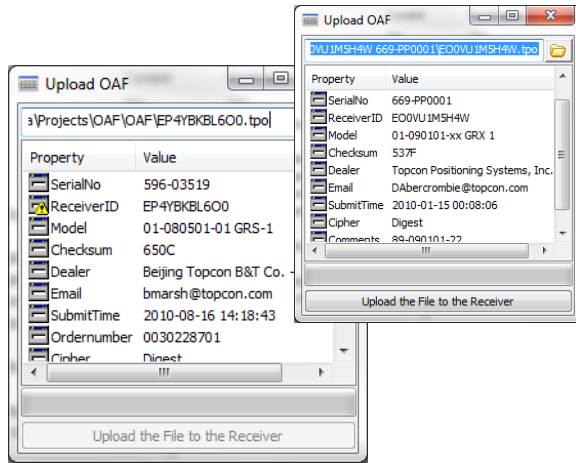

Figure 5-7. Compatibility Check of OAF
4. Sokkia SRU initially checks to see if the selected file is compatible with the currently connected receiver. If a file not intended for this receiver was selected, the *Upload OAF* dialog box (Figure 5-7 on page 5-7) displays an *error* icon next to the Receiver ID and disables the *Upload the File to the Receiver* button.